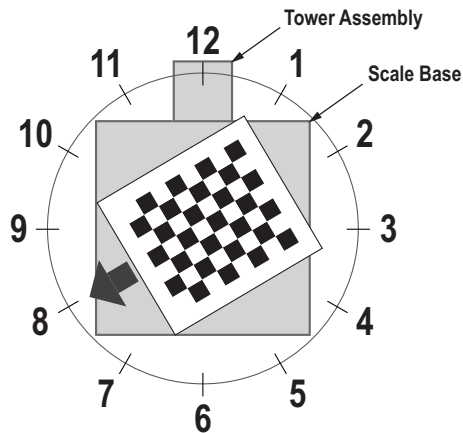

Figure 5-14. Rotate to 8 o'clock
13. Align calibration object so the cross hairs are centered. Rotate the calibration object to 8 o'clock with the tower assembly being at 12 o'clock (Figure 5-14).